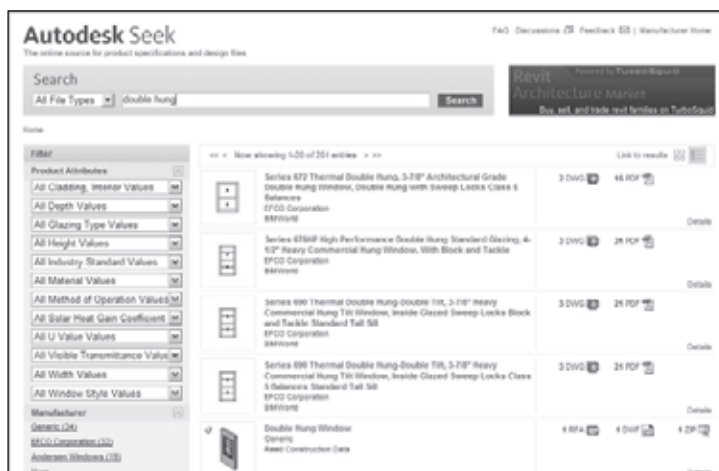

Figure 4.107
3. Browse for content and save it to your hard drive or other media (see Figure 4.107).